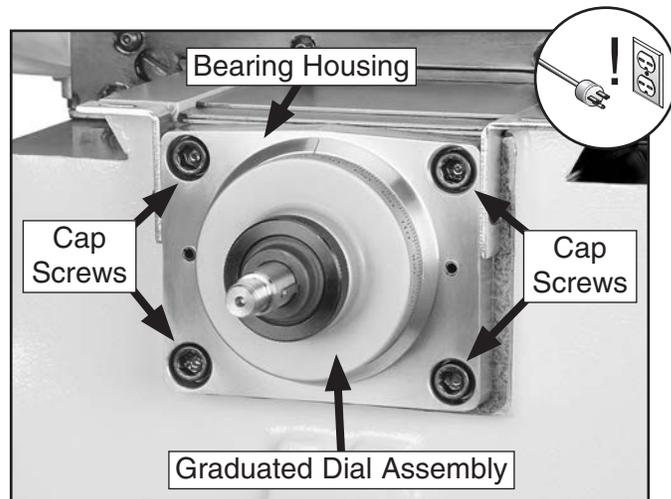

Figure 66. Cross feed graduated dial assembly and bearing housing with ball handle removed.
4. Remove the four cap screws shown in **Figure 66** that hold the bearing housing to the saddle.